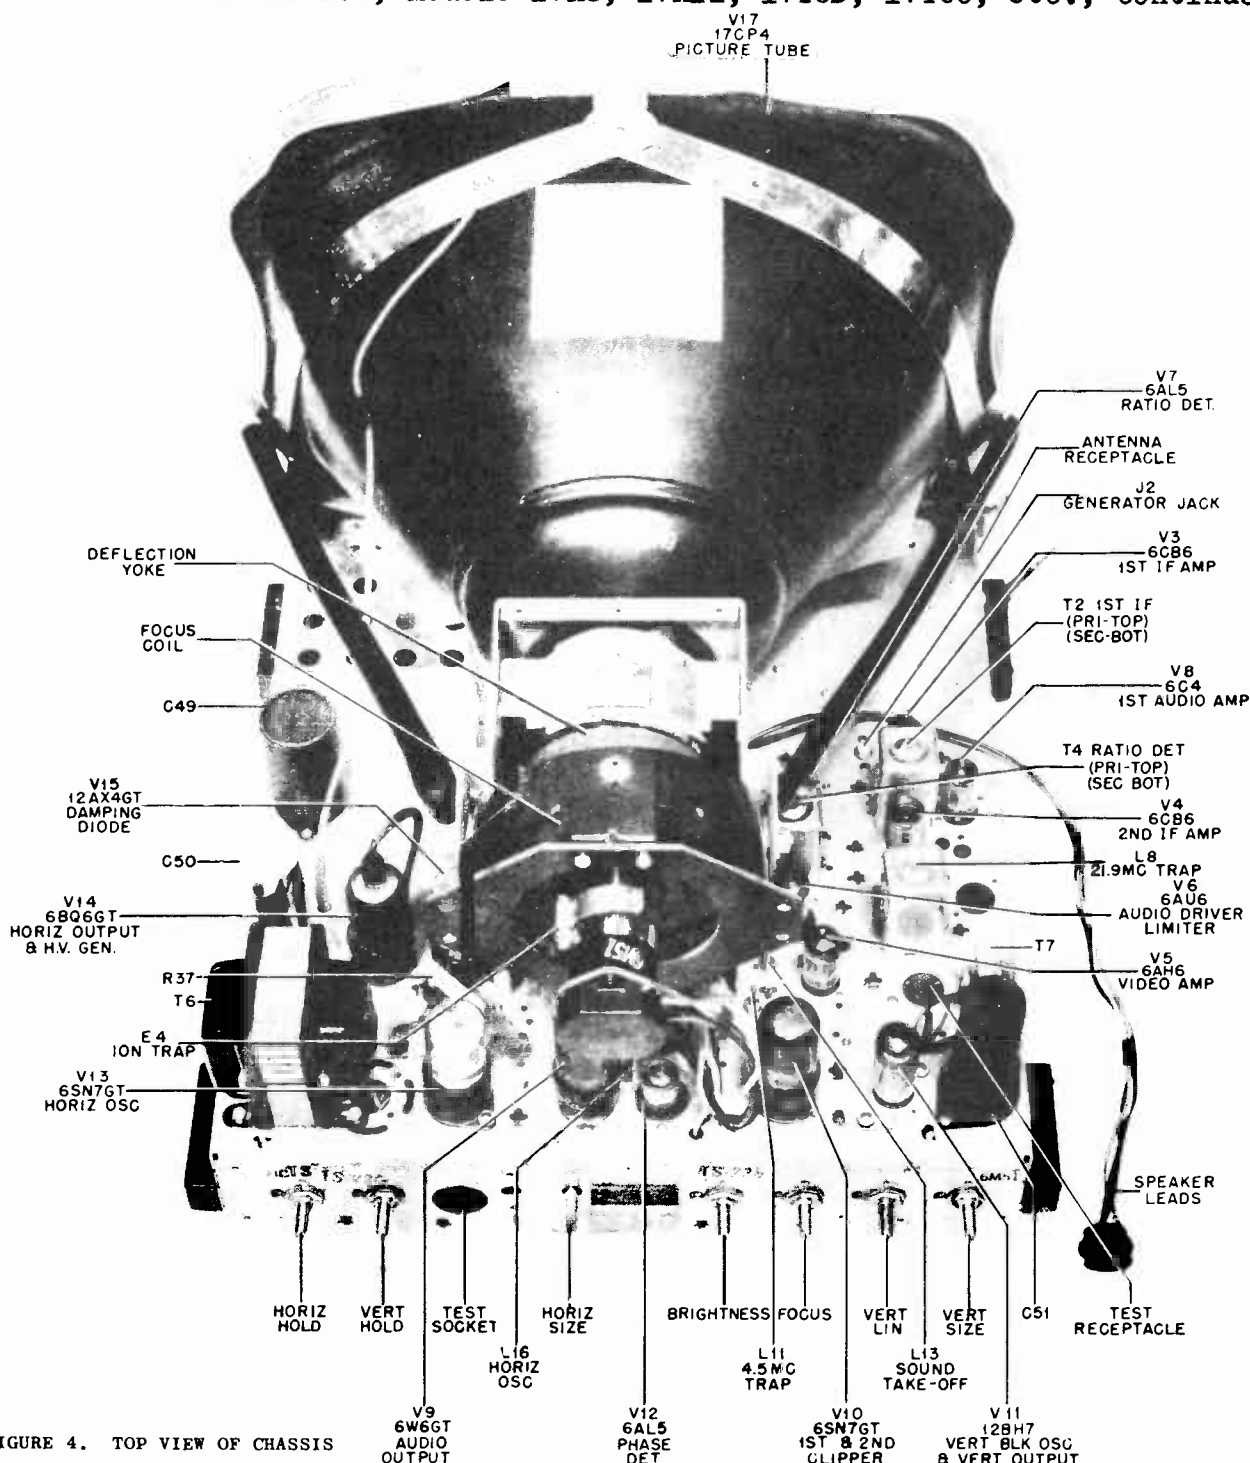

FIGURE 4. TOP VIEW OF CHASSIS
A three-pin receptacle, accessible from the top of the chassis (see Figure 4), is provided for checking sensitivity and AGC voltage. The video detector load resistor is connected to pin #3, the AGC line is brought out to pin #1, and pin #2 is grounded.
2. By means of an external battery, apply a negative 3 volt bias, through a decoupling resistor of 47K ohms, to the AGC line, which is connected to pin #1 of the test receptacle. See Figure 4 for receptacle location.
5. Using leads as short as possible, connect the sweep generator, through a 1000 mmf capacitor, to jack J-2, feeding into the grid of the 1st IF tube V-3. See Figure 4. (Do not use the loose or "spraying" method of coupling). Set the generator center frequency to 24.6 mc, with a sweep deviation of 10 mc.
6. Tune the primary and secondary of the 1st IF transformer T-2 to a center frequency of 24.75 mc. See Figures 4 & 5 for core locations and Figure 7A for response curve.